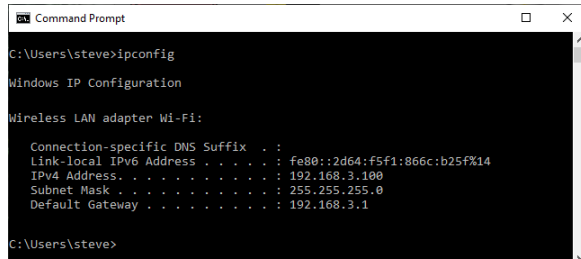

Figure 96 Using ipconfig to find your computer's ip address and default gateway
- (3) Figure 96 shows the result. Now take the default gateway IP Address, 192.168.3.1 in this example. and type it into the address bar of your favorite browser, then hit the Enter key.